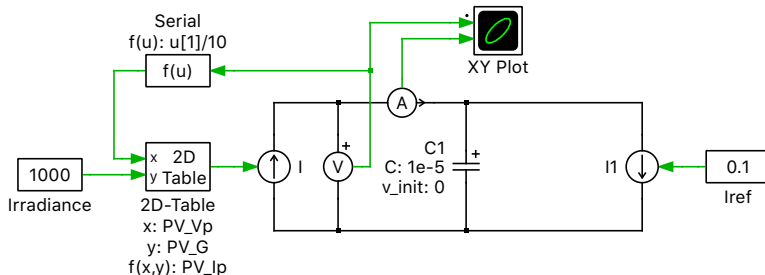

Figure 1: PLECS implementation of PV string model as voltage and solar irradiance-controlled current source
- 2 Next, build the model depicted in Fig. 1. The 2D Look-Up Table block needed to define the non-linear output characteristic is found in the PLECS Control component library under “Functions & Tables”.